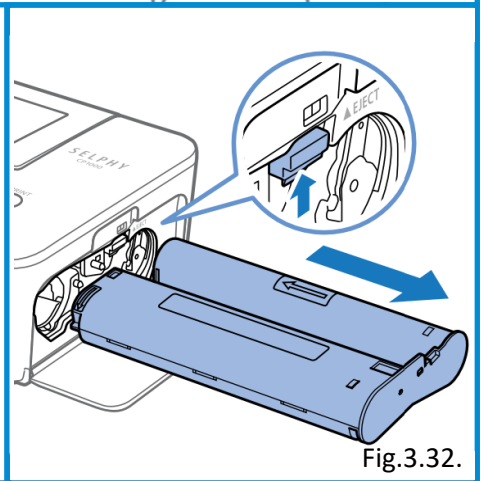

Fig.3.32.
- Turn the paper dispenser unit to the maximum open position (Fig.3.32).